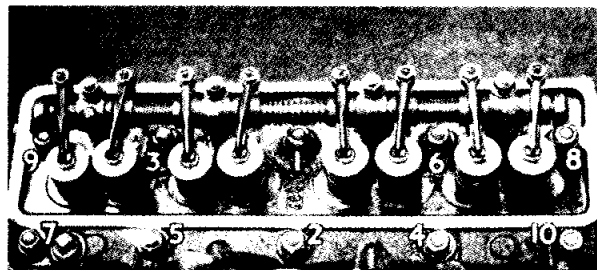

Fig. 28 Cylinder Head nut tightening sequence
When refitting the cylinder head nuts, tighten them gradually in the sequence shown in Fig. 28 in order to produce an even pressure on the gasket and prevent undue strain in the cylinder block casting. It will be necessary to recheck the nut tightness when cold to 100—105 lbs. ft. Before tightening down the rocker shaft pedestals, screw back each adjusting screw and ensure that the ball ends of these screws engage correctly in the push rods. Failure to attend to this procedure can result in damage to the push rods. Smother the rocker gear with oil, particularly where the rockers bear on the valves.
- (d) Fit the longer push rods and lower the combustion head into position. Omitting the plain washers, tighten the combustion head nuts (Fig. 28) to the correct torque (100 to 105 lbs. ft.).